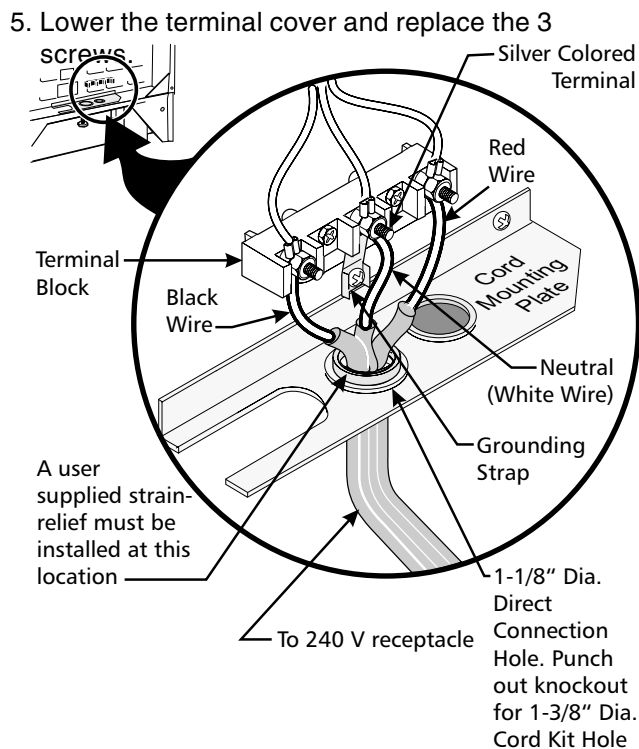

Figure 3
NOTE: Range is shipped from factory with 1 1/8" dia. hole as shown in figure 3. If a larger hole is required, punch out the knockout.
If local codes permit connection of the frame grounding conductor to the neutral wire of the copper power supply cord (see Figure 3):
4. Replace the 3 nuts on the terminal block (see figure 3).